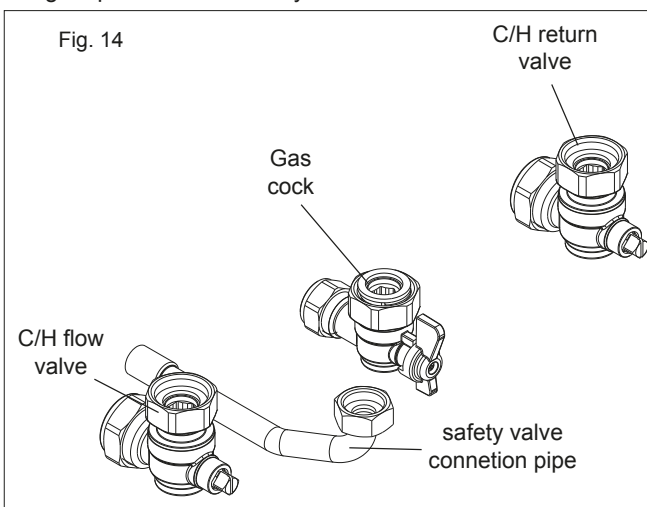

Fig. 14
**4.3 CONNECTING THE GAS & WATER (FIG. 14)**